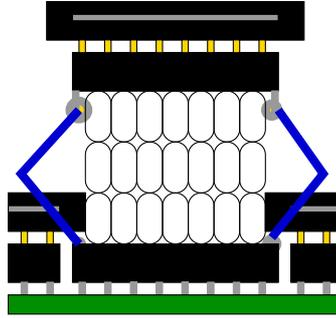

Figure 1: Lofting the cable connector (workaround).
6. **WORKAROUND** If you have the Mark2 board then the cable connectors are too close together to fit in the socket. As a workaround build a stack of cut up 30-pin headers 8 wide and place on the middle connector. Stack 3 high. Then solder wires from the PCB up to the far right and left pins of a 10-wide socket on top. This will allow the side connectors to fit, as well as the middle one to be lofted. See Figure 1.